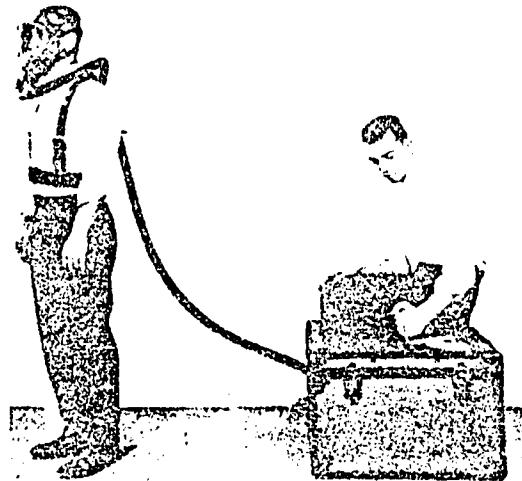

Figure 3. Supplied Air Respirator.
c. Supplied air respirators for use in closed areas where ventilation cannot be supplied. (See Figure 3.) Fresh air blowers of the positive pressure type, Bureau of Mines approved, shall be provided for each two respirators and the hoses limited to 150 feet.